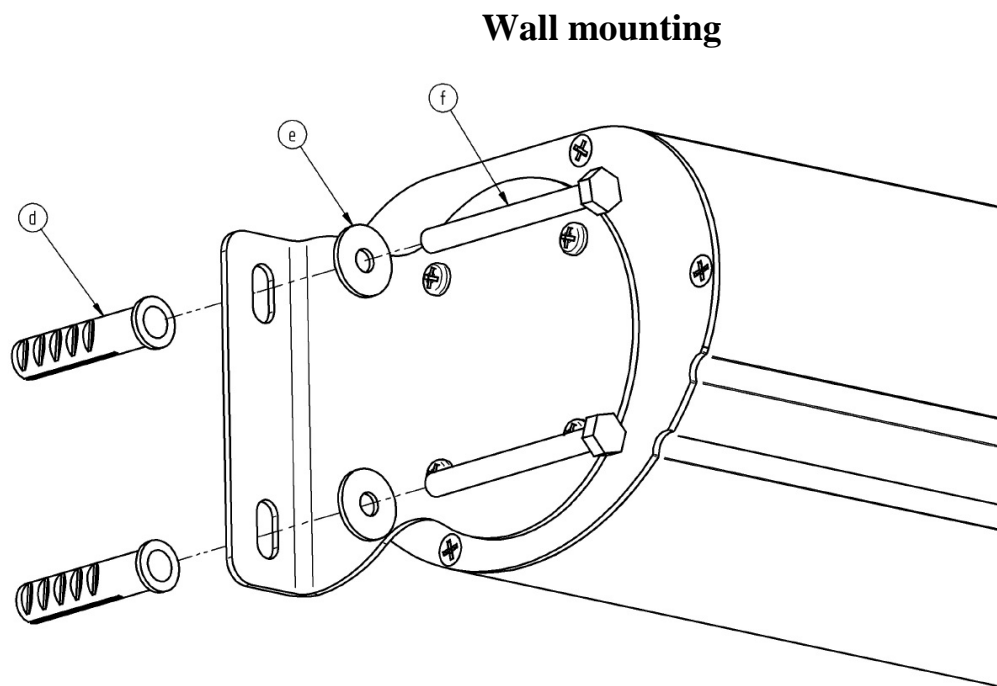
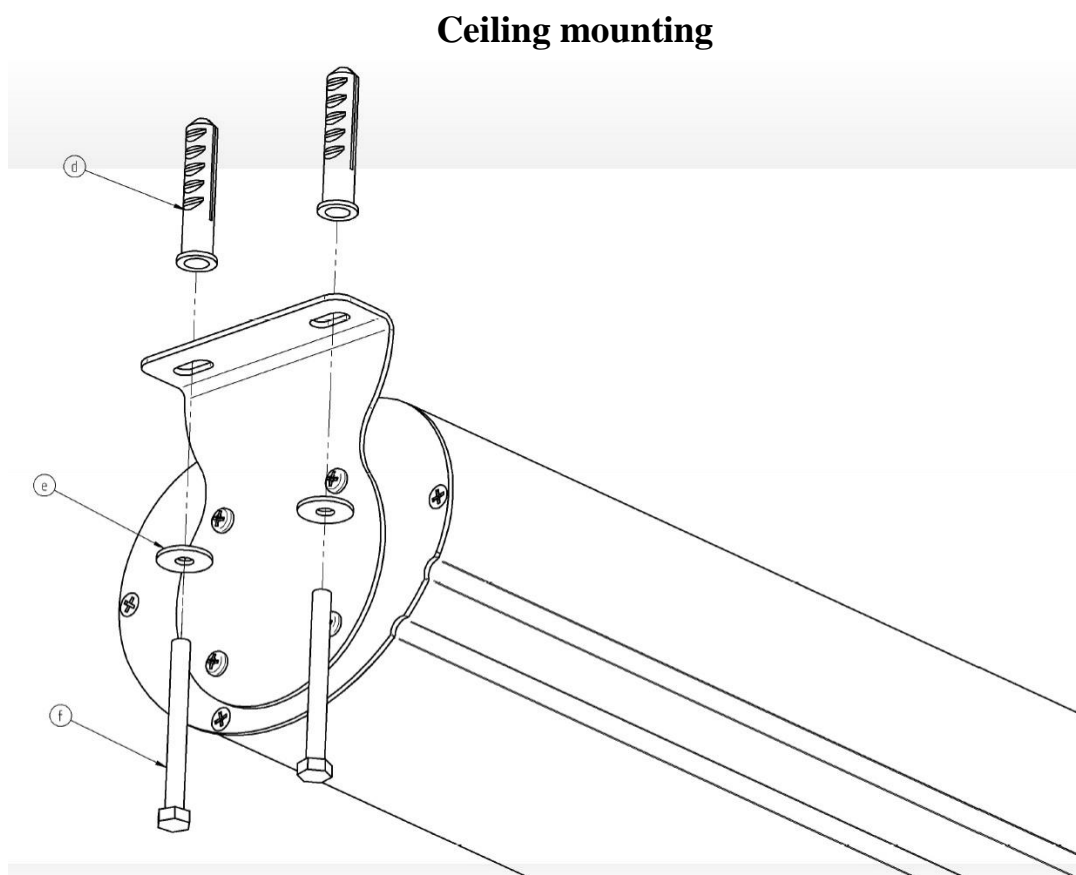

Fig.2a
Fig.2b
2. Depending on the method of mounting, screw the mounting brackets using the mounting dowels to the wall (Fig.2a) or to the ceiling (Fig.2b).